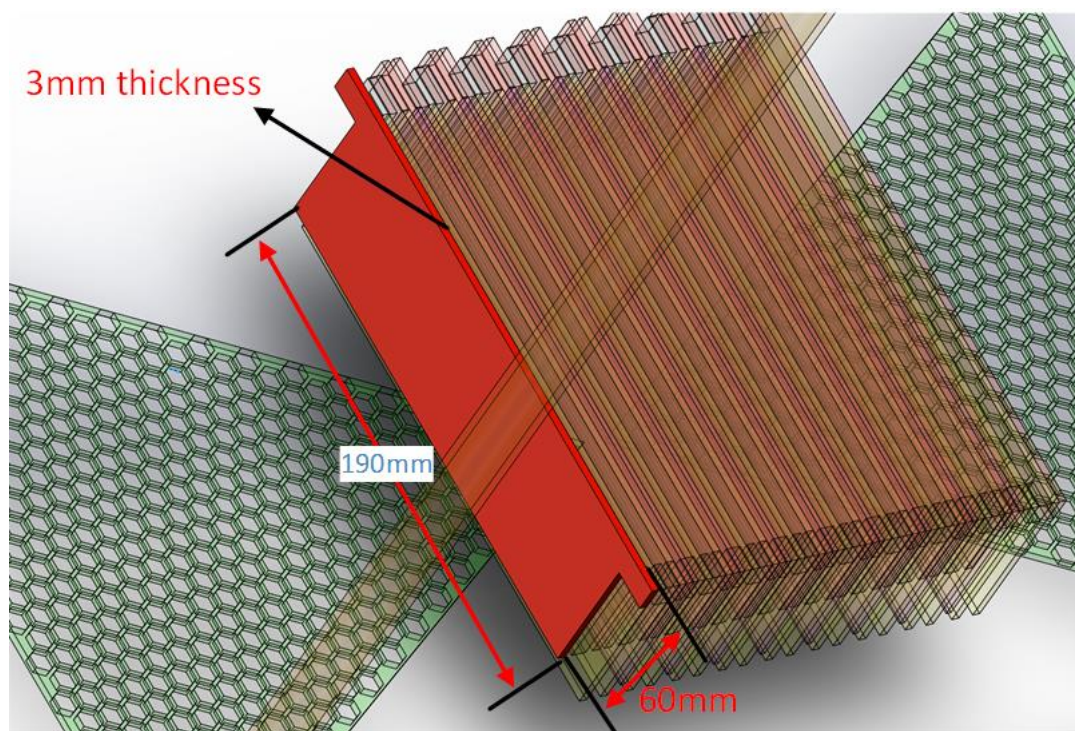

Figure 4 Positive electrodes
(1) The positive electrodes (red plate), 6cm x 19cm, 3mm thickness, see Figure 4